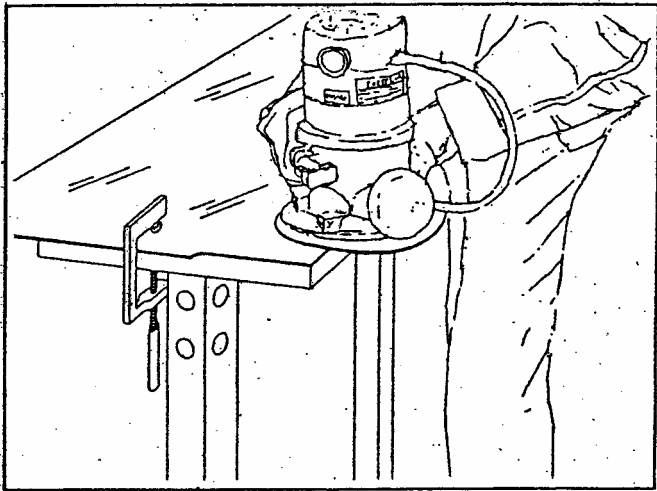

Figure 10
- 4. Flush trim the overhand using a router with a 2 or 3 flute trimming bit. See Figure 10.